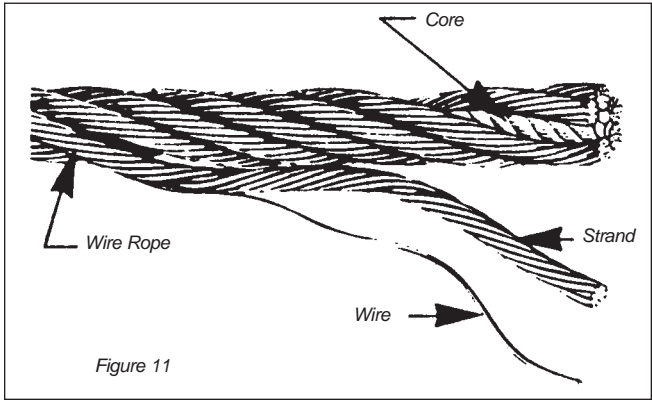

Figure 11
3. the **core**, which can be fibre rope (FC), independent wire rope core (IWRC), or wire strand core (WSC). See Figure 11.